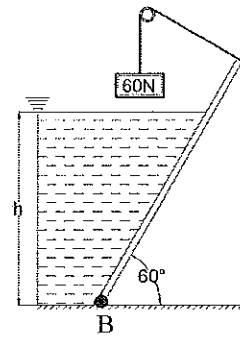

Figure Q8-b
- a. By considering the given Figure Q8-a, show that distance, from the free surface, to the center of pressure on an inclined immersed plane surface area is given by,